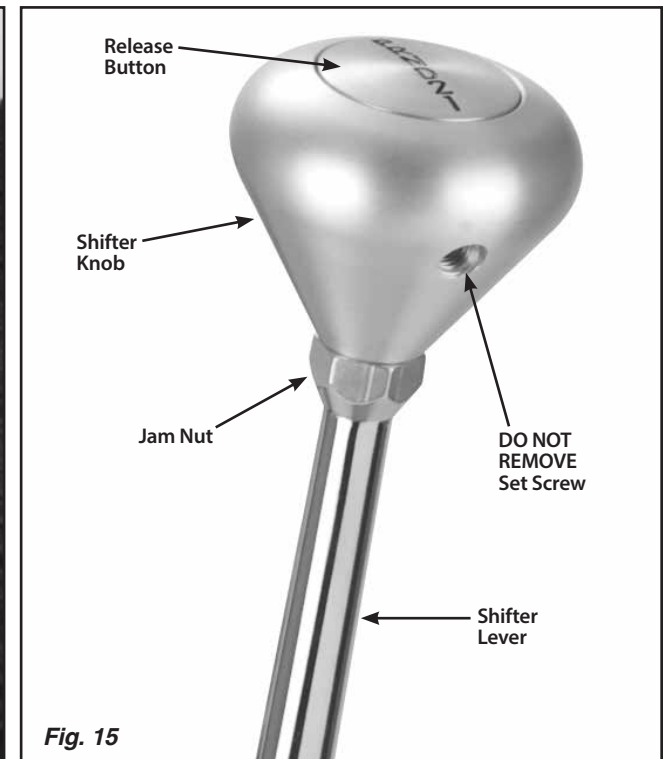

Fig. 15
- Step 2:** Loosen the jam nut below the shifter knob. **DO NOT** loosen or remove the set screw that is in the knob. **Fig. 15**